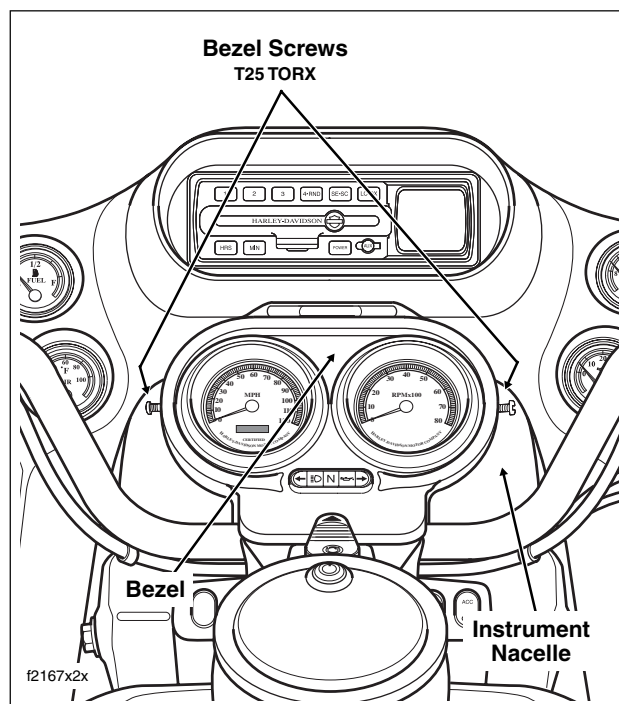

Figure 2-164. Remove Instrument Bezel Screws
1. Using a T25 TORX drive head, remove screw on left and right side of instrument bezel. See Figure 2-164.
5. Using a T25 TORX drive head, install screw on each side of bezel. Tighten screws to 25-35 **in-lbs** (2.8-4.0 Nm). See Figure 2-164.